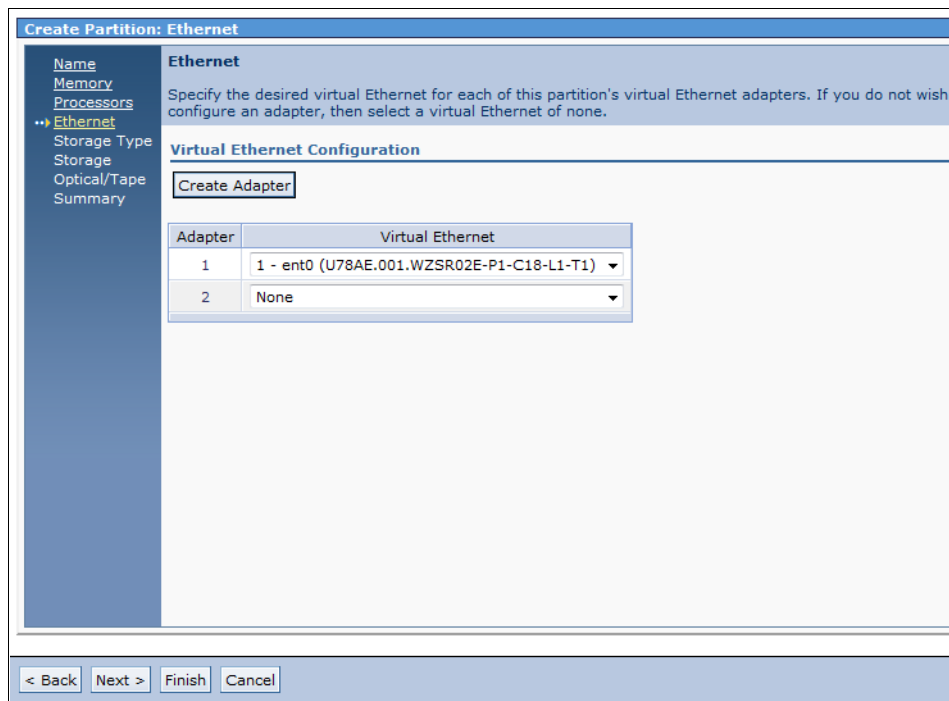

Figure 8-68 IVM Create Partition Ethernet window
6. IVM creates two virtual Ethernet adapters by default for use by the LPAR. Complete the following steps in the Ethernet window, as shown in Figure 8-68: